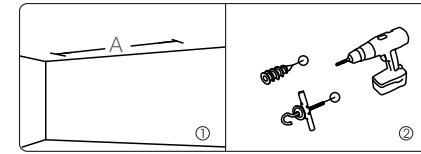

Figure 12
1. To drill two same holes with an electric drill horizontally with wall, then fasten hangers(unprovided) onto the ceiling. ( Figure 12 )